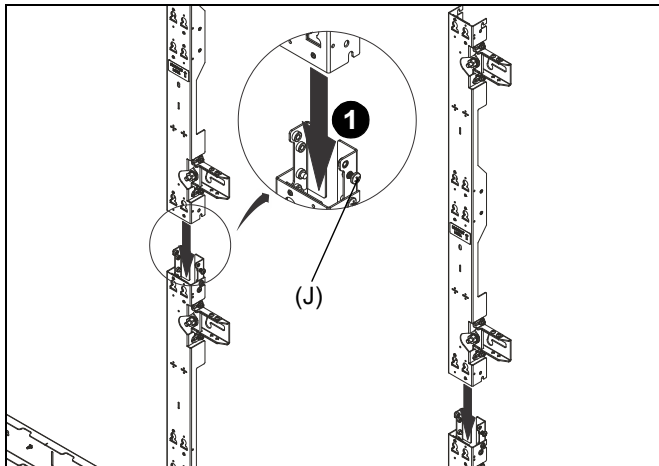

Figure 19
1. Lower additional uprights (L, M or N) onto installed uprights, placing grooves at bottom of uprights over partially installed screws (J) on connector kit. (See Figure 19)